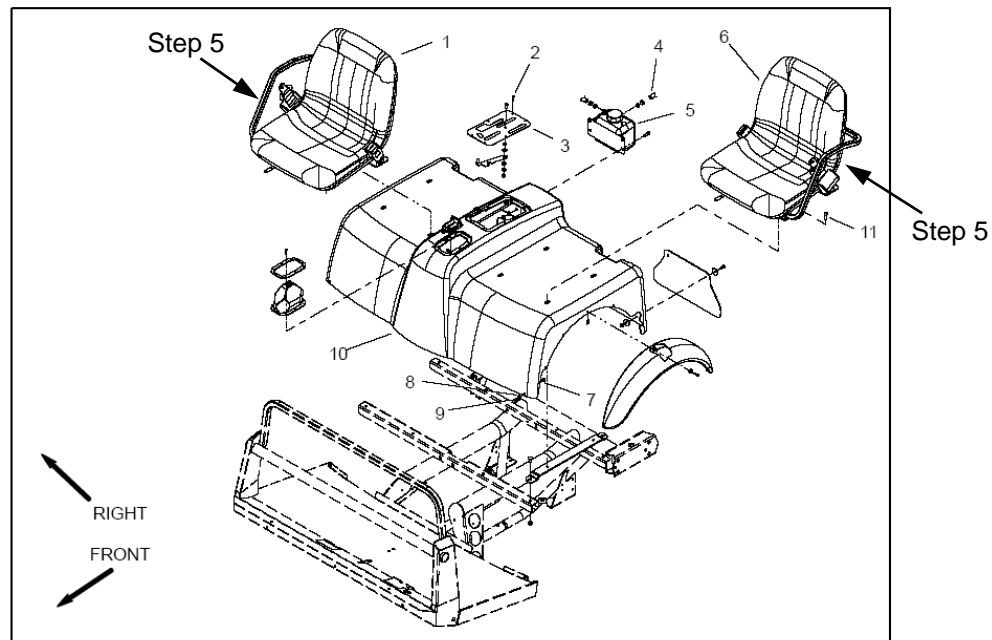

Figure 4
Note: If cab 07319 with doors is to be installed, the hip restraint and a washer on the front of seat adjuster slide need to be removed. Retain parts in case the doors are ever removed, the hip restraints must be reassembled to the seats. The seat belt assemblies must always remain assembled to the seats. See Figure 4.
12. Remove screws that mount center console and move console out of the way to have better access to suspension springs. No need to disconnect any of the cables. See figure 4.